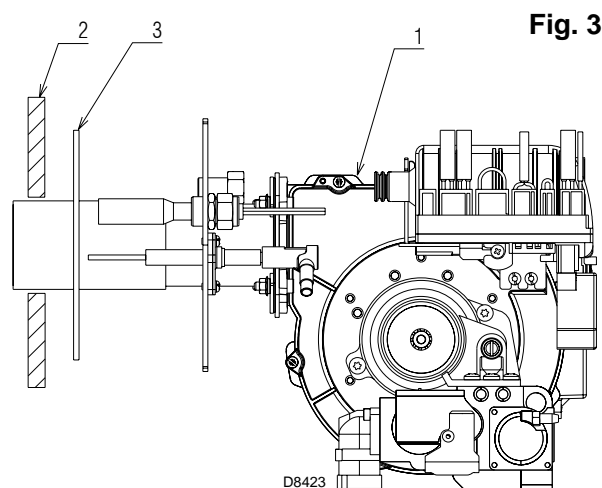

Fig. 3
3.2 HEAT GENERATOR FIXING, (fig. 3)